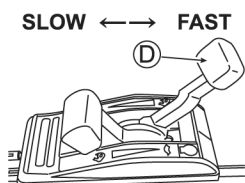

Fig. 18
5. Adjust the mowing speed with Gearshift lever (D). (See Fig. 18)